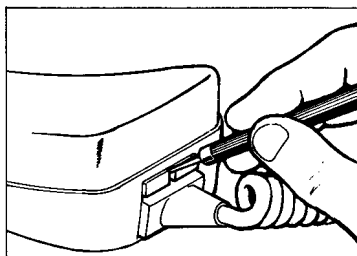

Figure 5A. Depress Spring Clip.
- a. Insert the releaser tool into the slot provided as shown in Figure 5a. Be sure that the tool is on top of the spring clip.